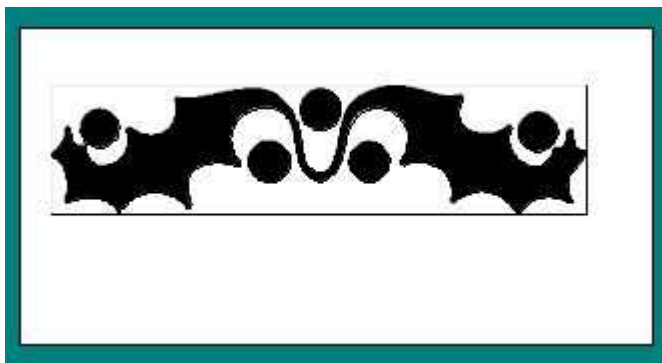

Figure 3
- 4 Now Click somewhere around the centre of your Workspace, this will be the position that the Picture will be placed, see Figure 3